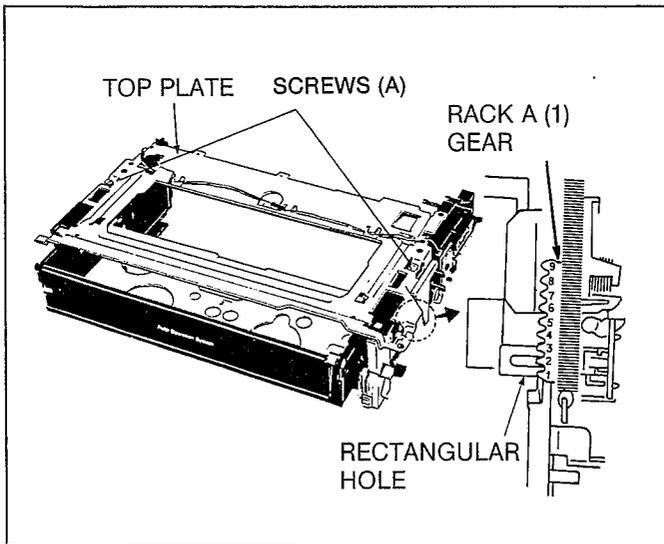
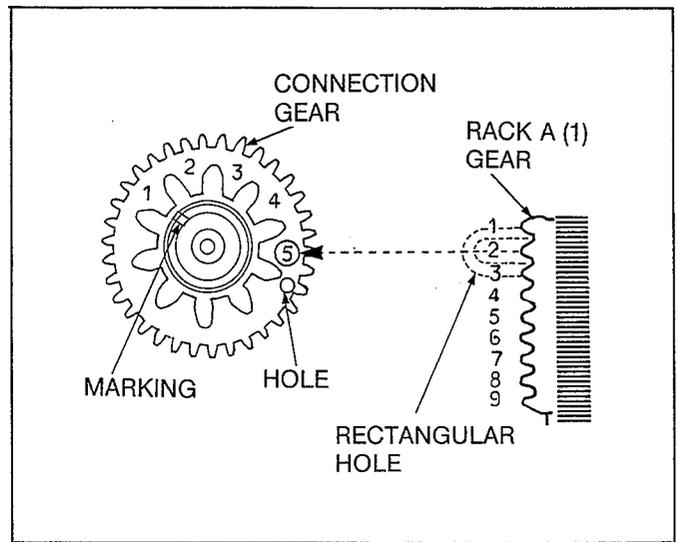

Fig. A15
Fig. A16
4. Slide the cassette holder just a little so that second tip of Rack A (1) Gear (located bottom view, right side of cassette compartment) come to centre of rectangular hole as shown in Fig.A15.
5. Remove the 2 screws (A) and carefully remove the top plate from the cassette compartment. (so that Connection Gear and Rack A (1) Gear can be seen when reinstalling).
6. Install slowly the cassette compartment to chassis so that the second tip of Rack A (1) Gear comes into the fifth slot of Connection Gear as shown in Fig.A16. If it is not, slide the cassette holder a little bit for correct position